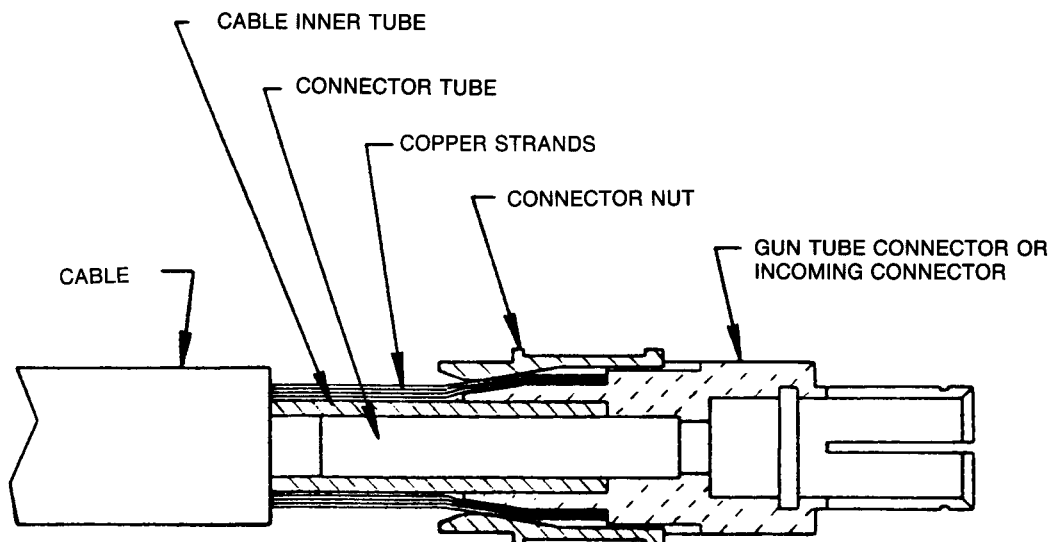

Figure 3
- g. Check that the cable boot and both halves of the strain relief are on the cable. Slip the connector nut over the copper strands with the thread end out. Orient gun tube connector so machined flat is on the same side of the cable as the red and white control leads. Assemble gun tube connector to cable by forcing the steel tube of the connector into the inside diameter of the cable inner tube until the copper strands are butted against the gun tube connector shoulder. Keeping the copper strands against the shoulder, pull the connector nut over the copper strands, engage the gun tube connector threads, and tighten in place. Refer to Figure 3.
- f. Check that the cable boot and cable handle are on the cable. Slip the connector nut over the copper strands with the threaded end out. Assemble incoming connector to cable by forcing the steel tube of the connector into the inside diameter of the cable inner tube until the copper strands are butted against the incoming connector shoulder. Keeping the copper strands against the shoulder, pull the connector nut over the copper strands, engage the incoming connector threads, and tighten in place. Refer to Figure 3.